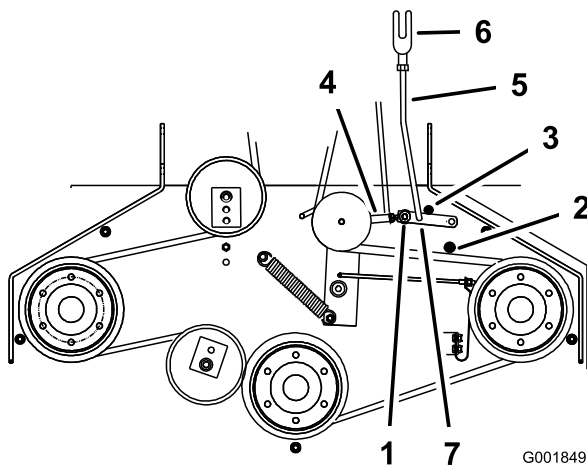

Figure 58
- Make sure the assist arm is against the rear assist arm stop on the deck (Figure 58).
- The assist arm should contact the front assist arm stop on the deck. If it does not contact, adjust the bellcrank so it is closer to the gusset (Figure 58).
8. To adjust the assist arm link, remove the hairpin cotter pin from the assist arm (Figure 58).
11. Install the assist arm link into the assist arm and secure it with the hairpin cotter pin (Figure 58).